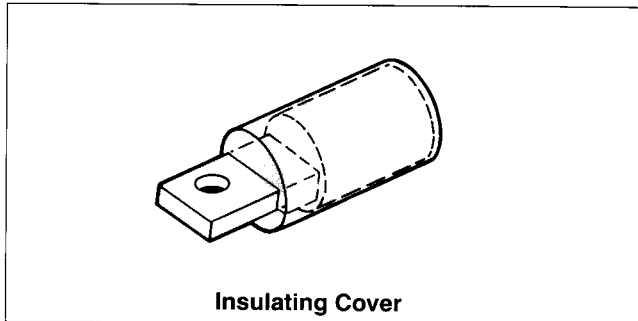

Figure 3
- J. Slip insulating cover over connector tang and then over connector barrel so that only the connector tang is exposed (Figure 3).